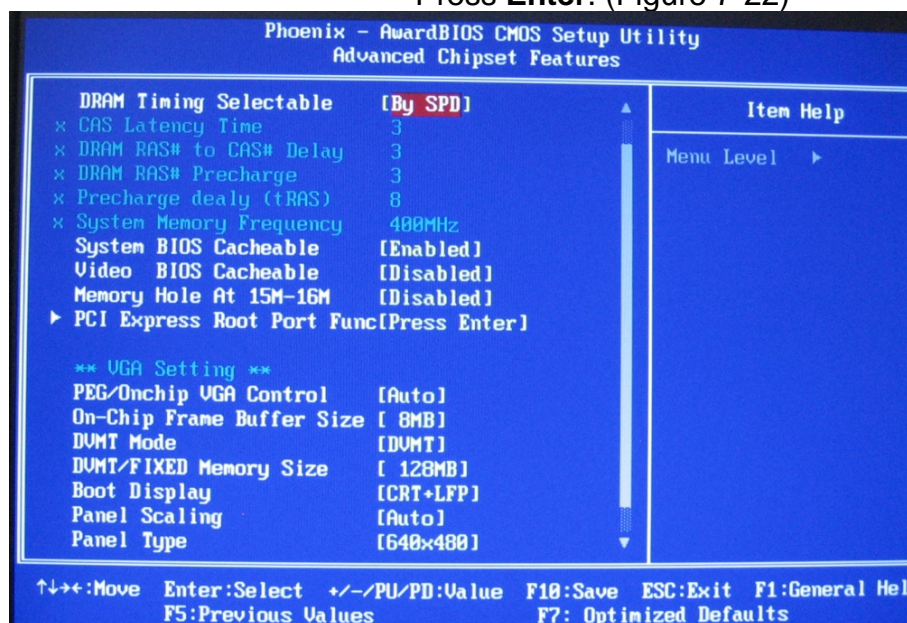

Figure 7-22 Advanced Chipset Features
12. On the **Advanced Chipset Features** page. **No Change for Advanced Chipset Features.** Press **Enter**. (Figure 7-22)